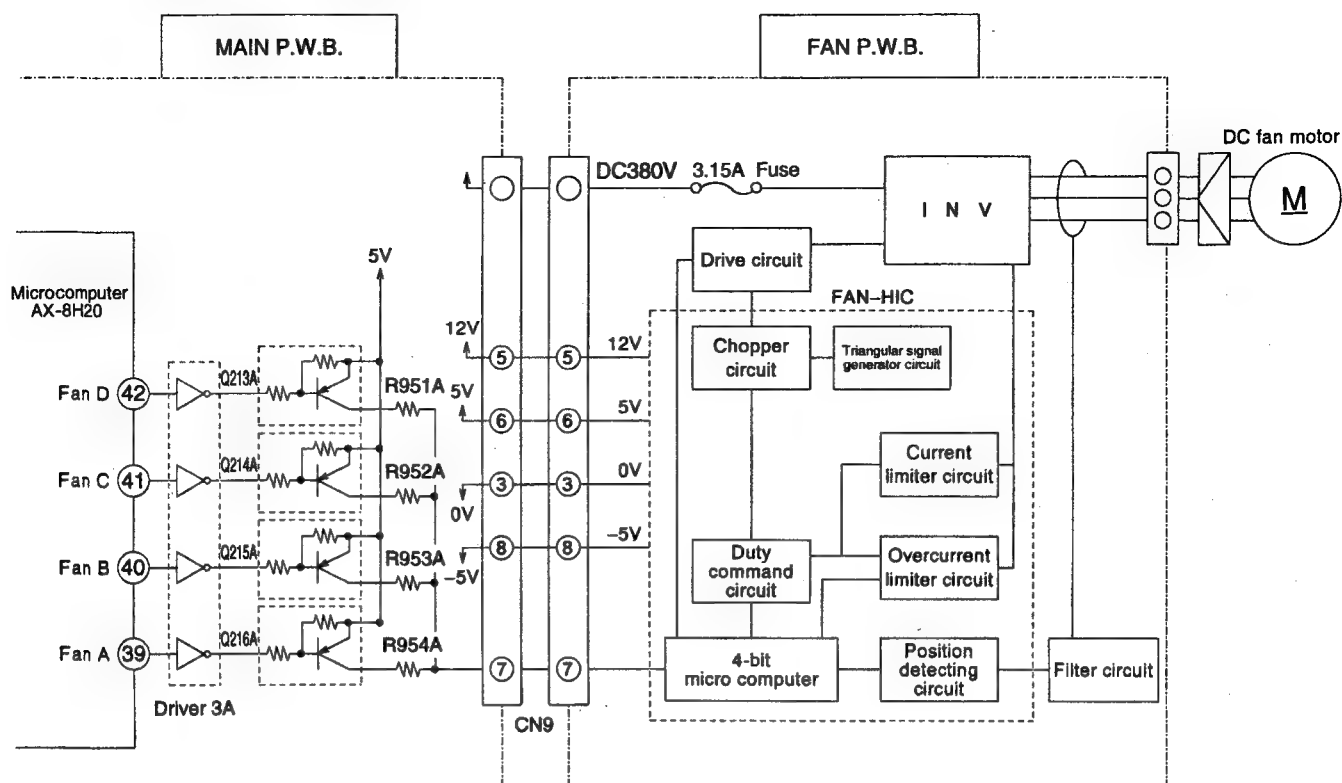

Fig. 12-1
- The outdoor DC fan motor receives ①: supply voltage (380V DC), ②: control voltages (12V, 5V, -5V) and ③: rotation speed command (0-5V) from the Control (MAIN) P.W.B. and controls the rotation speed using the inverter control in the control circuit on the Fan motor control P.W.B. (Fig. 12-1)